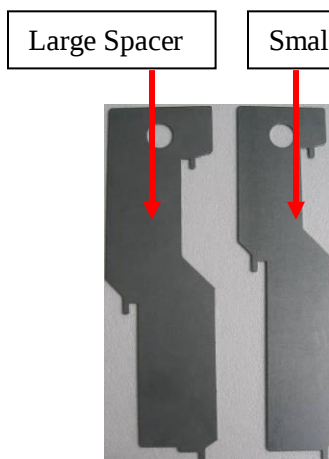

Figure 26 – Spacer
- c. To load short cans or bottles, spacers must be inserted in the front and back sections. D4 uses a thin spacer, D5 /D6 uses a wider spacer (*Figures 26, 27 and 28*).